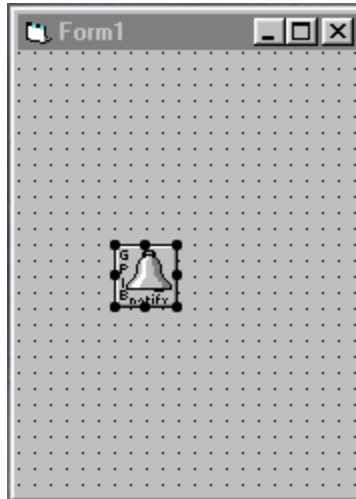

Figure 3.
1. Double-click on the `NOTIFY` icon in the **ToolBox**. This places the `GPIB notify` icon onto your form as shown in Figure 3.